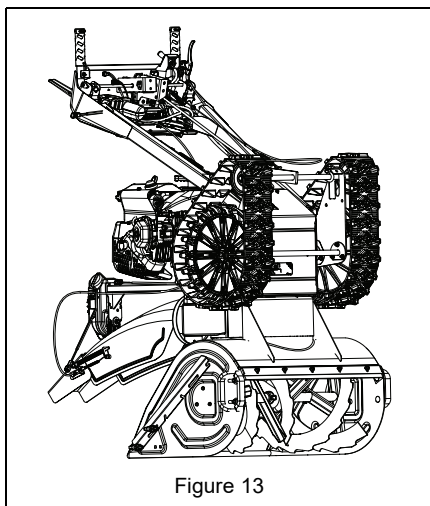

Figure 13
See Figure 13.
1. Place unit in service position (see Figure 13).